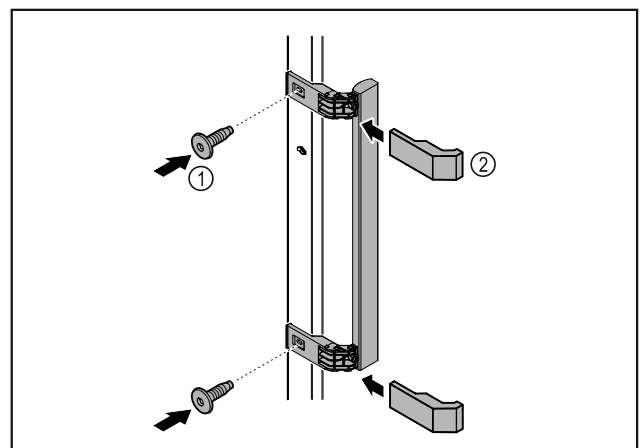

Fig. 4
- ▶ Attach handle from accessory kit to the door using the screws supplied *Fig. 4 (1)*.
- ▶ Put on cover *Fig. 4 (2)*.